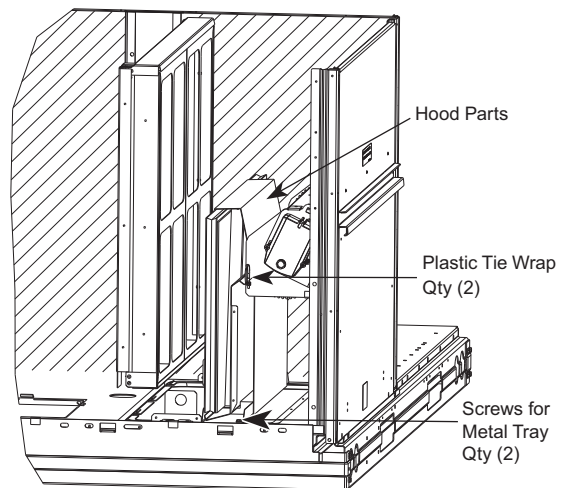

Fig. 11 — Economizer Hood Package Location
3. Locate the (2) screws holding the metal tray to the basepan and remove. Locate and cut the (2) plastic tie-wraps securing the assembly to the damper (see Fig. 11). Be careful to not damage any wiring or cut